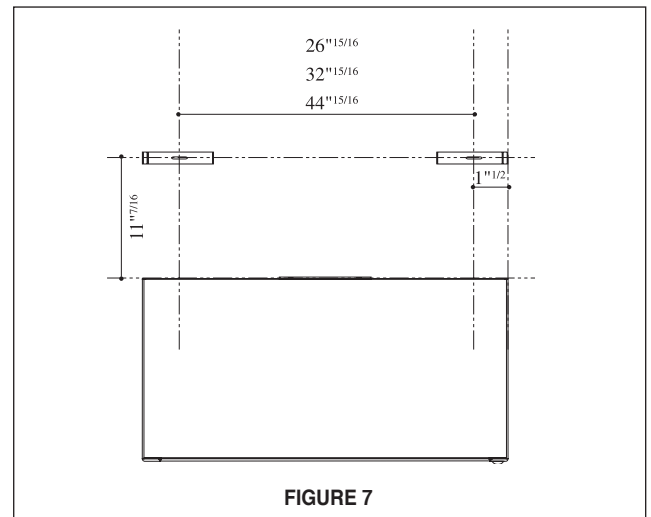

FIGURE 7
**FIGURE 7** provides the dimensions for the **Full Width Duct Cover** brackets. The **Full Width Duct Cover** also attaches to the top of the rangehood with screws provided. The **Full Width Duct Cover** must be attached to the top of the rangehood before mounting the rangehood to the wall.